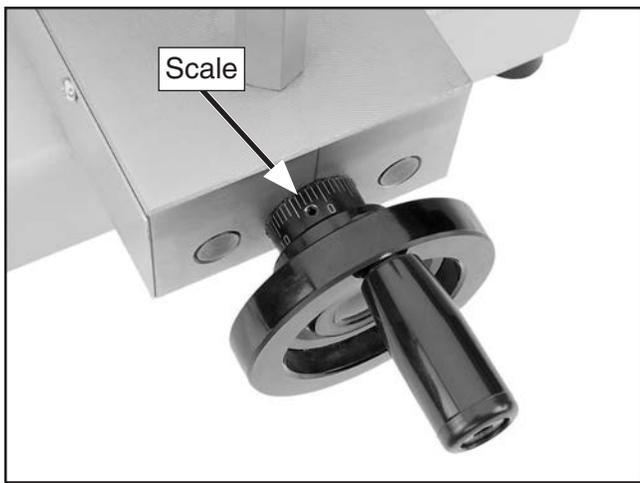

Figure 32. Carriage handwheel and scale.
17. Rotate the carriage handwheel counterclockwise one increment of the scale shown in **Figure 32** to move the drill bit away.